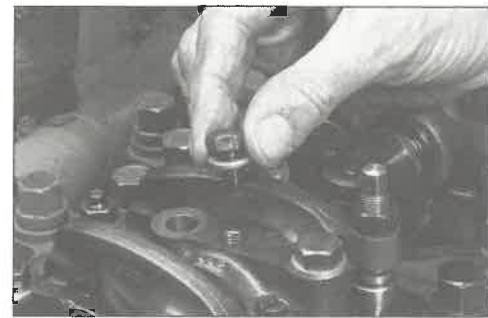

FIG. 12
Remove the two hex head screws and lock washers located on the rocker brackets which lock the rocker shafts (see Fig. 12). There are six (6) rocker shaft brackets. The two screws that lock the shafts are on the first and fourth shaft brackets (from the front of the engine).